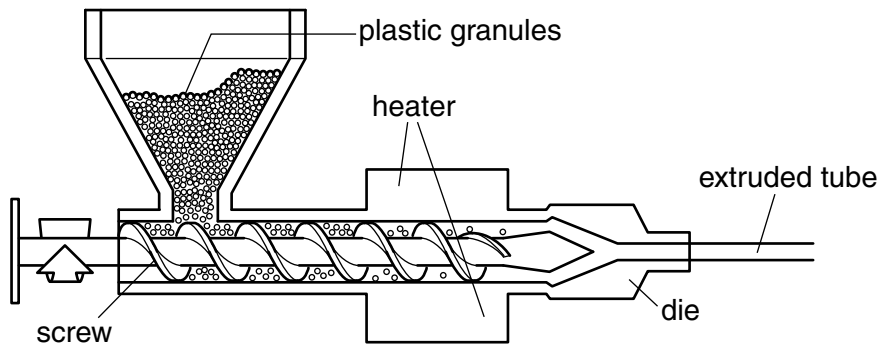

Fig. 13.3
- (e) Fig. 13.3 shows a cross-sectional view of an extrusion machine used to produce the tube for the desk tidy.